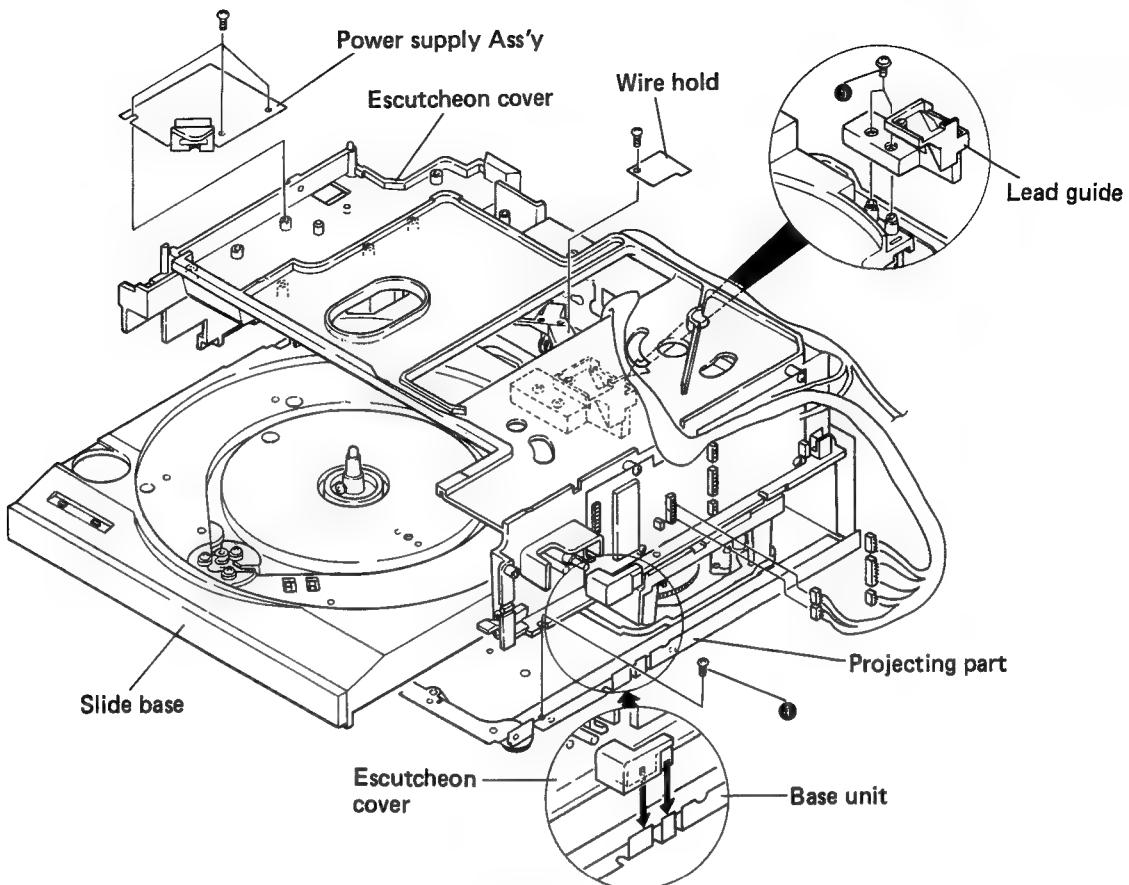

Fig. 1-21 Disassembly
Disconnect all connectors shown in Fig. 1-21 at this time. And since the tonearm is pushed back with considerable force, be especially careful when removing the escutcheon cover.
2. Replace the escutcheon cover so that the sides slip over the projecting parts of the base as shown in Fig. 1-21, and then secure by screwing in screws ④.